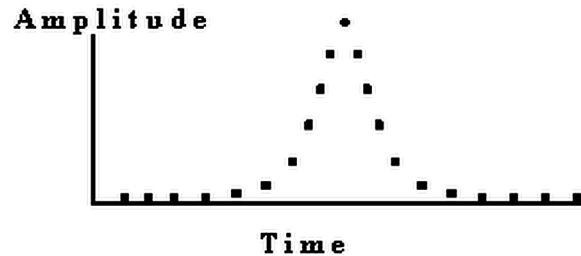

Figure 2.3 An "ideal" Readback Pulse for disc drives
Hint: The desired output signal, $y_{out}(t)$ (see **Figure 2.3**), is defined in the time domain as a symmetric and slimmed pulse with minimum undershoots.
- If the desired output signal, $y_{out}(t)$ (see **Figure 2.3**), in the time domain is to be a symmetric and a slimmed pulse, what might the $h(t)$ function shape be or equivalent to?